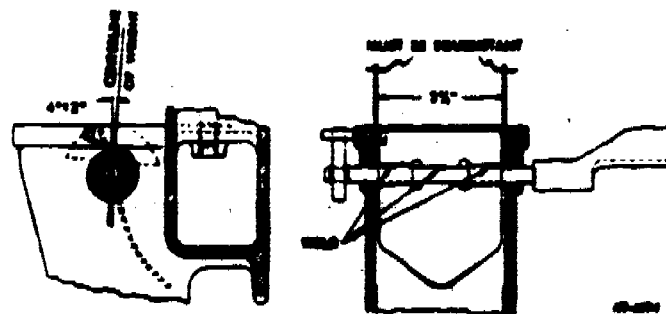

Fig. 87 - Details of Manifold Heat Control Valve
6. Insert new shaft through the bushings and new valve plate. Lubricate the shaft and bushings with a mixture of penetrating oil and graphite. With valve in "heat-on" (closed) position, rotate shaft until counterweight is in correct location. See Fig. 87.